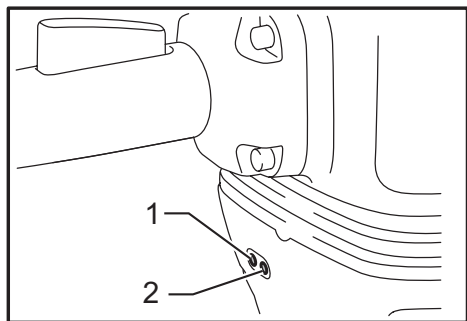

Fig.2
- Fig.2: 1. Power-ON indicator lamp (green)